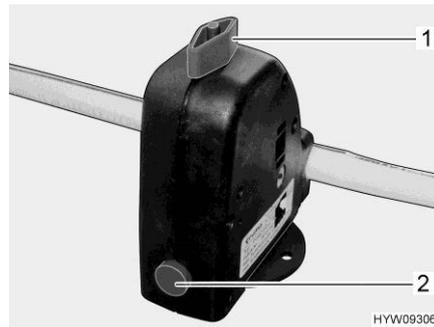

Fig. 118 Safety/drainage valve
The boiler is equipped with a safety/drainage valve (Fig. 118). The safety/drainage valve prevents water in the boiler from freezing, when there is frost and the heater is not switched on.
- Close the safety/drainage valve. Turn the knob (Fig. 118,1) perpendicular to the safety/drainage valve and push the push button (Fig. 118,2) in.
- Open the safety/drainage valve. To do this turn the knob (Fig. 118,1) parallel to the safety/drainage valve. The push button (Fig. 118,2) jumps out. The boiler is drained to the outside by the safety/drainage valve.